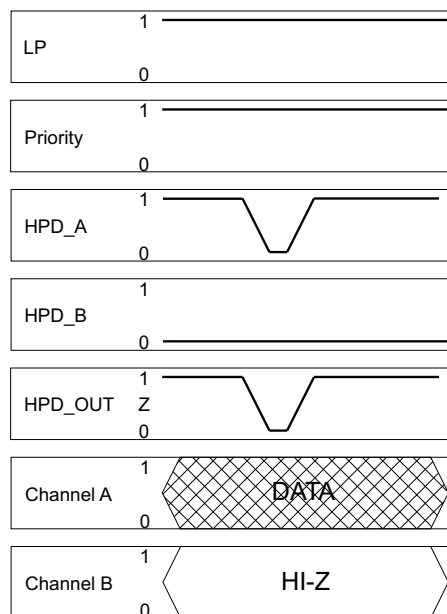
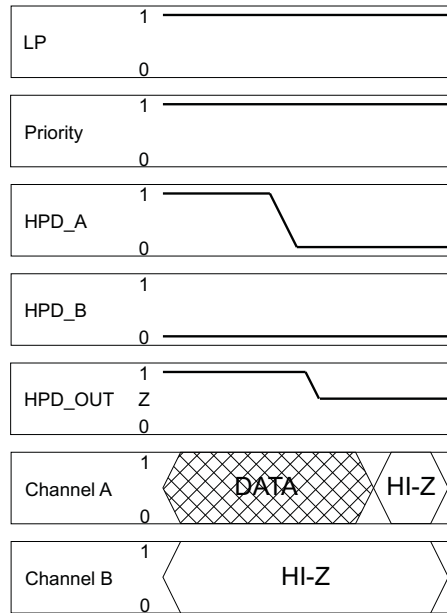

Figure 20.
Figure 21.
- Case one: In this case only one HPD input is initially HIGH. The HPD output logic state follows the state of the HPD input. If the HPD input pulses LOW, as may be the case if the Sink device is requesting an interrupt, the HPD output to the source also pulses LOW for the same duration of time with a slight delay (see Figure 20). The delay of this signal through the SN75DP128 is specified as  $t_{PD(HPD)}$ . If the duration of the LOW pulse is less than  $t_{M(HPD)}$ , it may not be accurately repeated to the source. If the duration of the LOW pulse exceeds  $t_{T2(HPD)}$ , the device assumes that an unplug event has occurred and enters the low power state (see Figure 21). Once the HPD input goes high again, the device returns to the active state as indicated in scenario 1. The state of the Priority pin has no effect in this scenario as only one HPD input port is active.